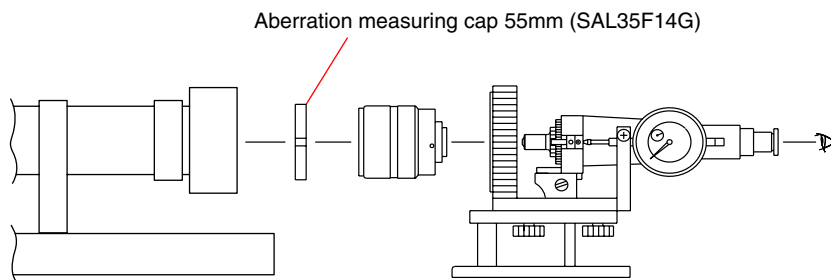

Fig.4-5-1
- 2) Set the aberration measuring cap 55mm (F8 equivalent) on the tip of lens as shown in the Fig.4-5-1, then measure the flange back (f'F).